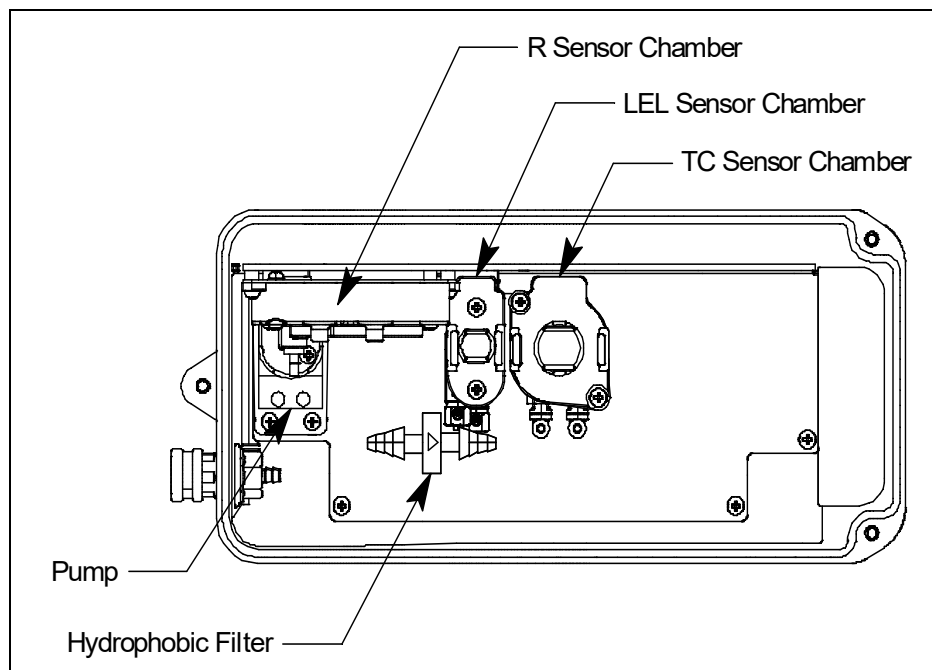

Figure 39: Typical TC Sensor Location
The TC sensor is installed in a single sensor flow chamber which is located next to the LEL sensor chamber. This area can accommodate up to three single sensor flow chambers. Figure 39 below illustrates a typical TC sensor location. The TC flow chamber may also be installed in one of the other two sensor chamber locations depending on the particular version of the EAGLE 3. Some TC sensor instrument configurations do not include the LEL sensor chamber.
6. Locate the TC sensor and retainer. Figure 39 on page 219 shows a TC sensor in a typical location.